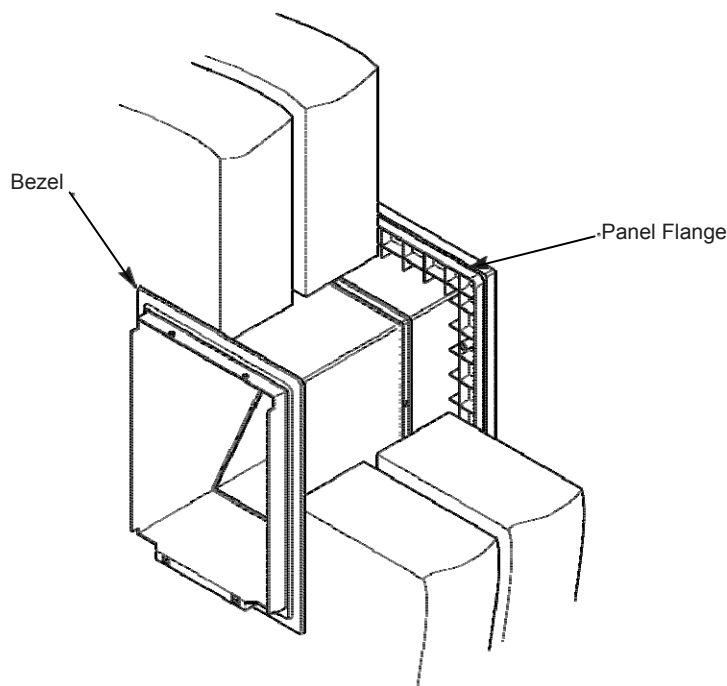

Fig. 6
5. Fit the bezel on the inside to cover the making good by pressing the bezel over the case (Fig. 6).
1. Slide the panel flange (flange first) on to the unit and press the flange firm against the outer wall (Fig. 6).